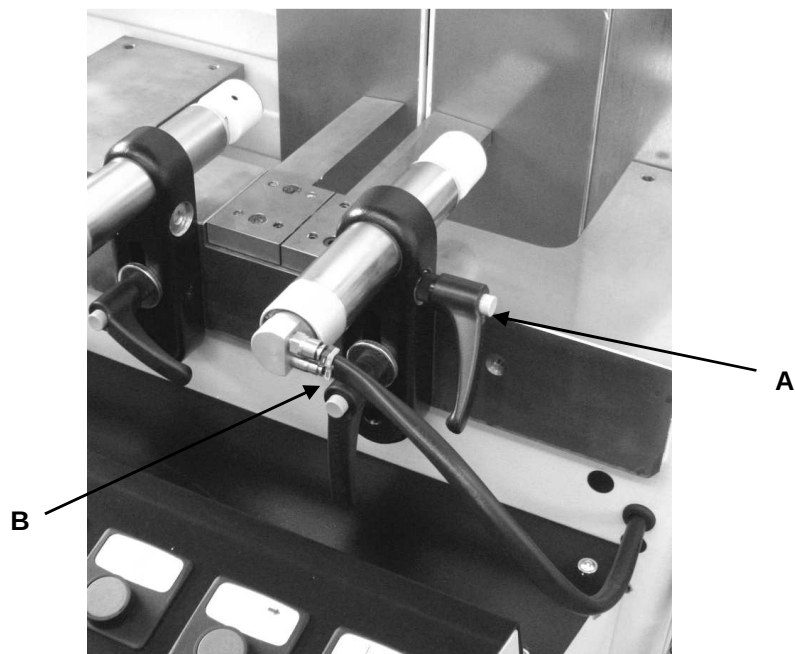

Fig. 10-08
10.4 SUBSTITUTION DU CYLINDRE ETAU (Fig. 10-08)